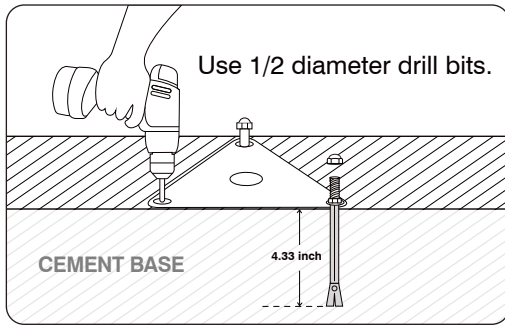

FIG.1
1. Drilling holes in the concrete floor using an electric drill (**the specific position can be fixed with the 12 Position Template**), the drill depth is about 4.33" (110mm). (FIG.1)